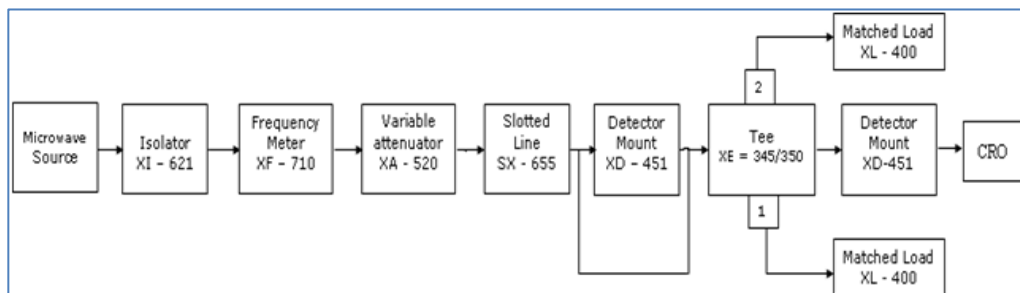

Figure 7.1: Block diagram of magic tee
- For a given magic tee, determine the isolation between ports C and D by comparing the power at port D to the input power as shown in the figure 7.1